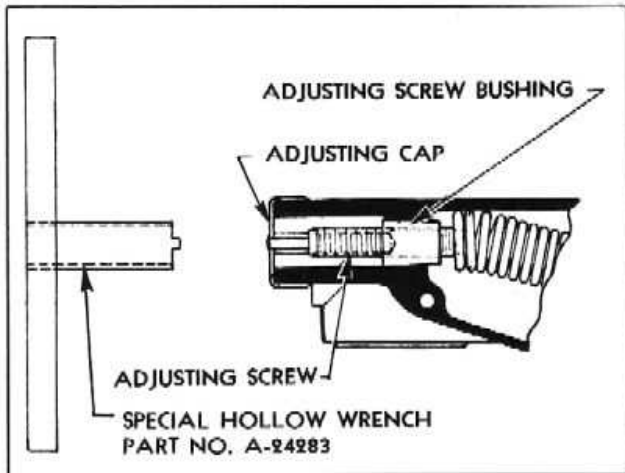

Fig. 18—Points of Governor Adjustment
In order to eliminate a surge or flat spot in engine operation, it is necessary to change the calibration of the governor spring tension by means of the adjusting screw bushing (Fig. 18). Unless absolutely
1. If the governor is too sensitive, or on the point of surging, remove seal. Remove adjusting cap by pulling straight out (do not unscrew from adjusting screw). Place the special hollow wrench, Handy governor part No. A-24283, Fig. 18, in the slots of the adjusting screw bushing. (This hollow wrench is obtainable from the King-Seeley Corporation, Ann Arbor, Michigan.) Turn adjusting screw bushing clockwise 1/4 turn. Replace adjusting cap and with it, turn adjusting screw clockwise one full turn. Repeat this adjustment until desired regulation is obtained.